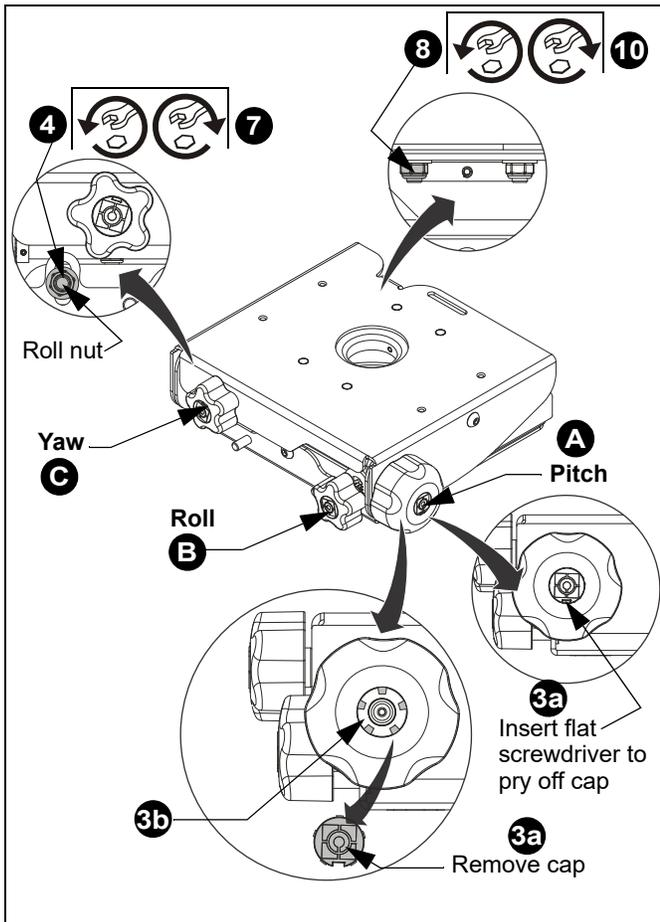

Figure 4
1. Turn **PITCH** knob (A) counterclockwise to pitch down. (See Figure 4)
2. Turn **PITCH** knob (A) clockwise to pitch up to 0°.
- **3b:** Insert pitch socket adapter (H) into knob
4. Loosen Roll nut (located immediately below and left of **YAW** knob [black nut on white mount, silver on black mount]). (See Figure 4)
8. Loosen Yaw nut (black nut on white mount, silver on black mount) accessible through back of mount. (See Figure 4)